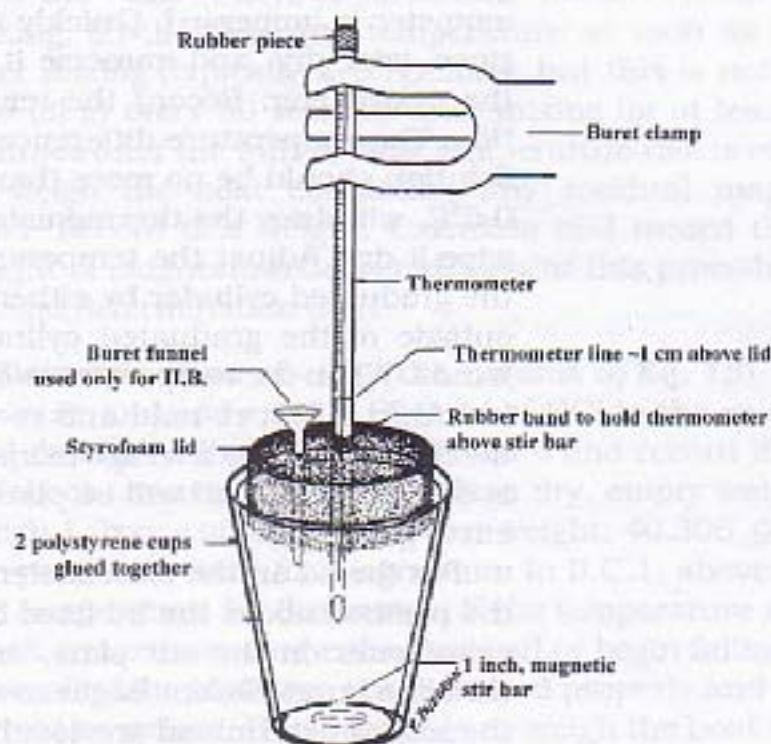

Figure 3. Calorimeter
Assemble the calorimeter according to Figure 3. Take care with the special thermometer. It is calibrated to 0.1°C and is rather expensive. The thermometer should be held in the buret holder with the aid of a rubber band and a buret clamp. Hold your hand underneath the thermometer when you first insert it into the buret clamp until you are assured that it is tightly held in place. When inserted in the calorimeter, the line on the thermometer should be $\sim 1 \text{ cm}$ above the top of the lid (measure with your ruler) so that the
Put the lid on the calorimeter, insert the thermometer to the position above the lid fixed by the rubber band, set the calorimeter on the stir plate, and clamp the thermometer with the buret clamp. Begin to stir the acid solution using the setting determined previously. Then add the NaOH solution by pouring it through the funnel in the second hole of the cap (Figure 3). Record (1) the time of mixing, (2) the time